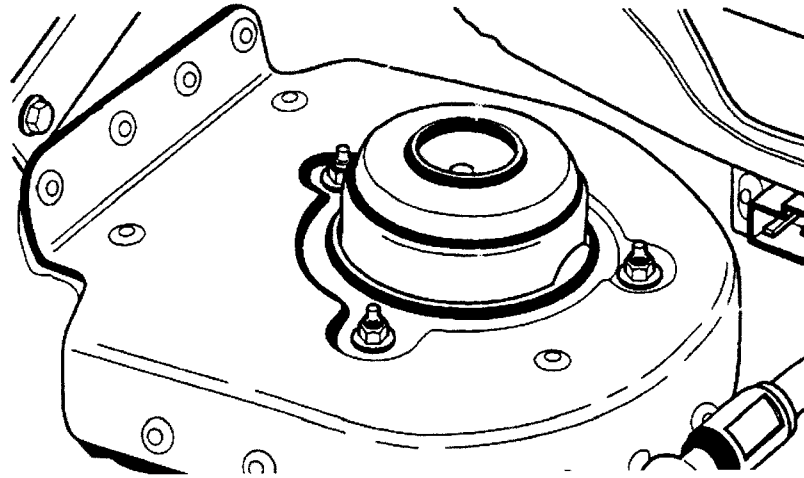

Fig. 6
17. Insert the structural rivets around the perimeter, through the cap, into the tower side apron (Fig. 6).